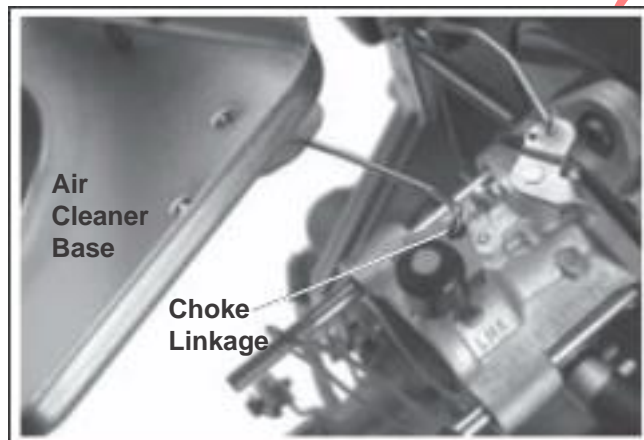

Figure 9-7. Removing Air Cleaner Base.
4. Loosen the hose clamp and disconnect the breather hose from the rocker arm cover. Remove the air cleaner base from the studs and disconnect the choke linkage from the carburetor choke lever. See Figure 9-7.